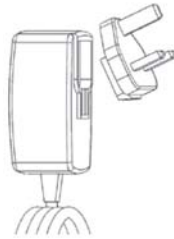

Figure 3 - Power supply
- The charger is supplied with a set of adapters for use in various countries (Figure 3)